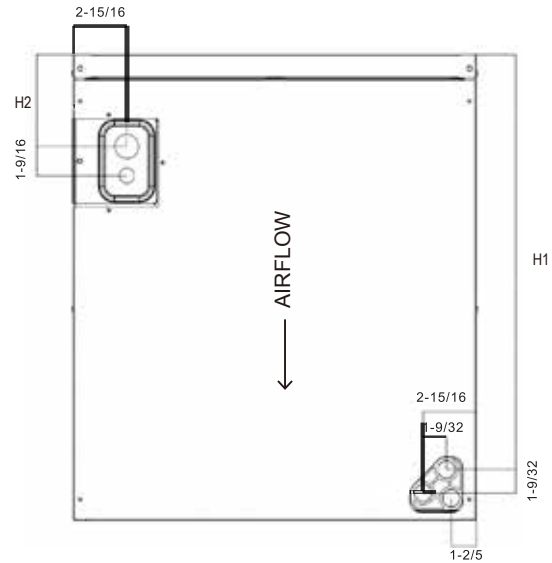
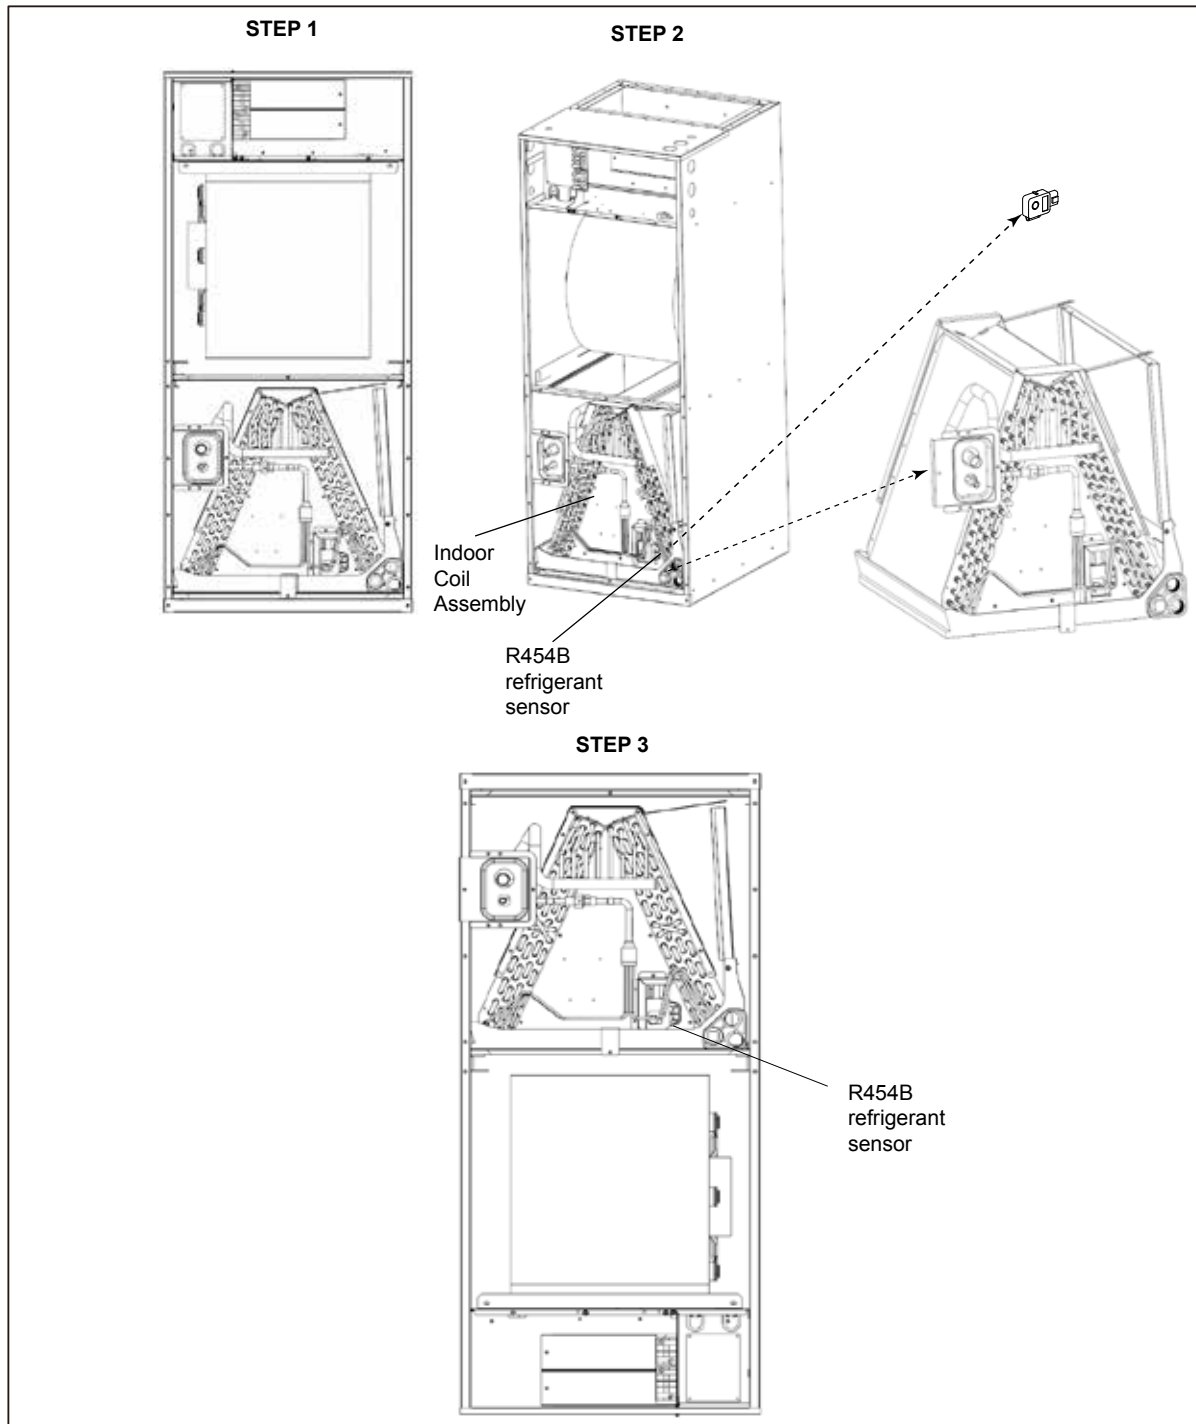

Fig.3-8 Dimensions for air handler (Coil Section)
Fig.3-9 Vertical Downflow & Horizontal Left Applications Conversion
A vertical upflow unit may be converted to vertical downflow. See Fig.3-8 and Fig.3-9.
1) Rotate unit into the downflow position, with the coil compartment on top and the blower compartment on bottom. See Fig.3-9.
2) Reinstall the indoor coil 180° from original position. Ensure the retaining channel is fully engaged with the coil rail. See Fig.3-9.
2. Pull out the coil with refrigerant sensor (Figure 3-9, Step 2).
3. Replace the coil in the correct orientation and secure in place. (Figure 3-9, Step 3).